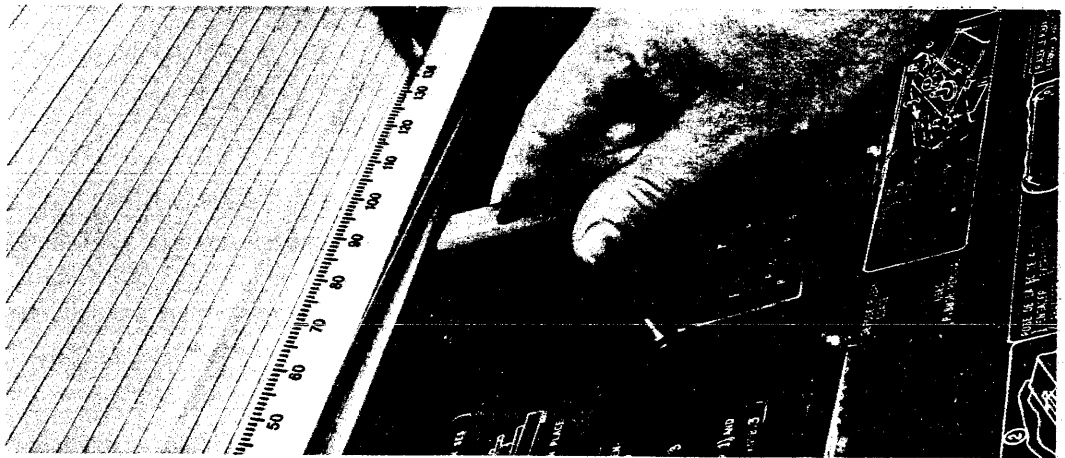

Figure 3-7. Unlocking the Ribbon Cassette
3. Unlock the ribbon cassette by rotating the cassette lock 90 degrees (Figure 3-7).